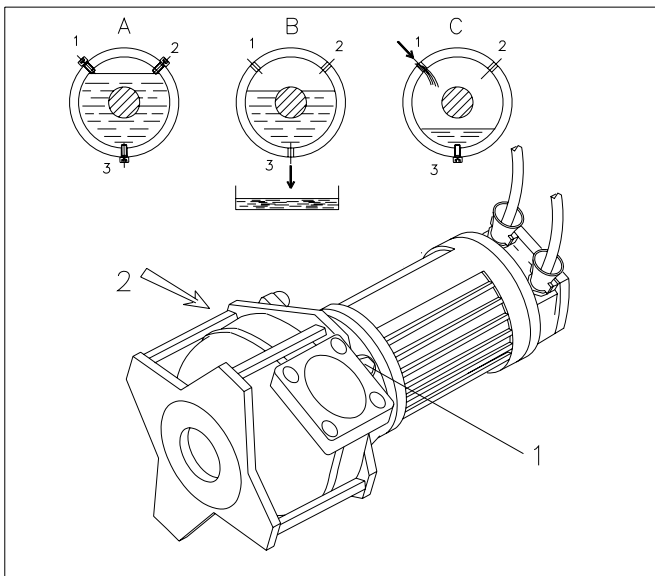

Fig. 7.8
Put the pump in a horizontal position so that the drain plug (3) is at the bottom (Fig.7.8 position A).
The oil level should be at the lower side of the openings (Fig.7.8 position A).